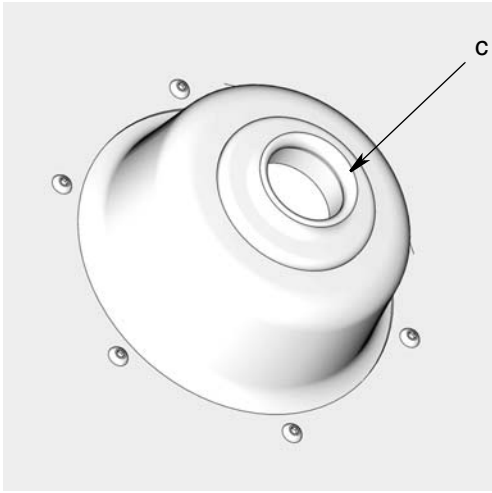

FIG. 7
5. Examine follow plate to make sure rubber grommet (c) is in place in center of the plate (FIG. 7).